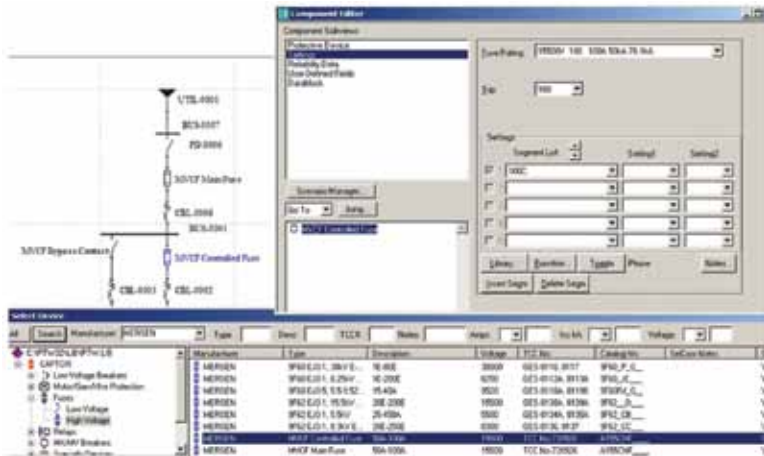

Figure 5. Selection of the controlled fuse of the MVCF.
Step 3. Select the controlled fuse (2) by clicking on the fuse to open the Component Editor. Select the MVCF controlled fuse from the library. Select 100C from the dialog box (settings) as shown in figure 5. The controlled fuse is shown as a separate fuse without a switch.